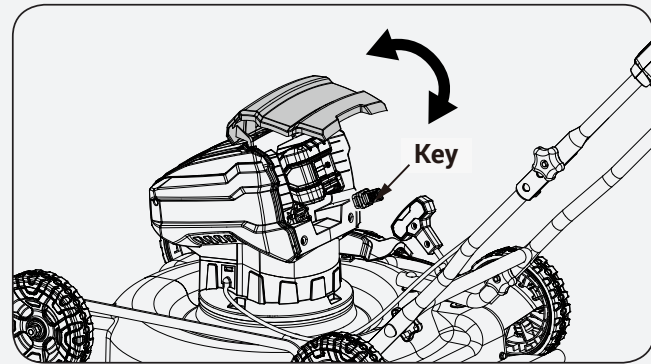

Figure 8
1. Hold and lift up the battery door. (See **Figure 8**)
3. Insert the switch key into the slot beside the battery port. (See **Figure 8**)